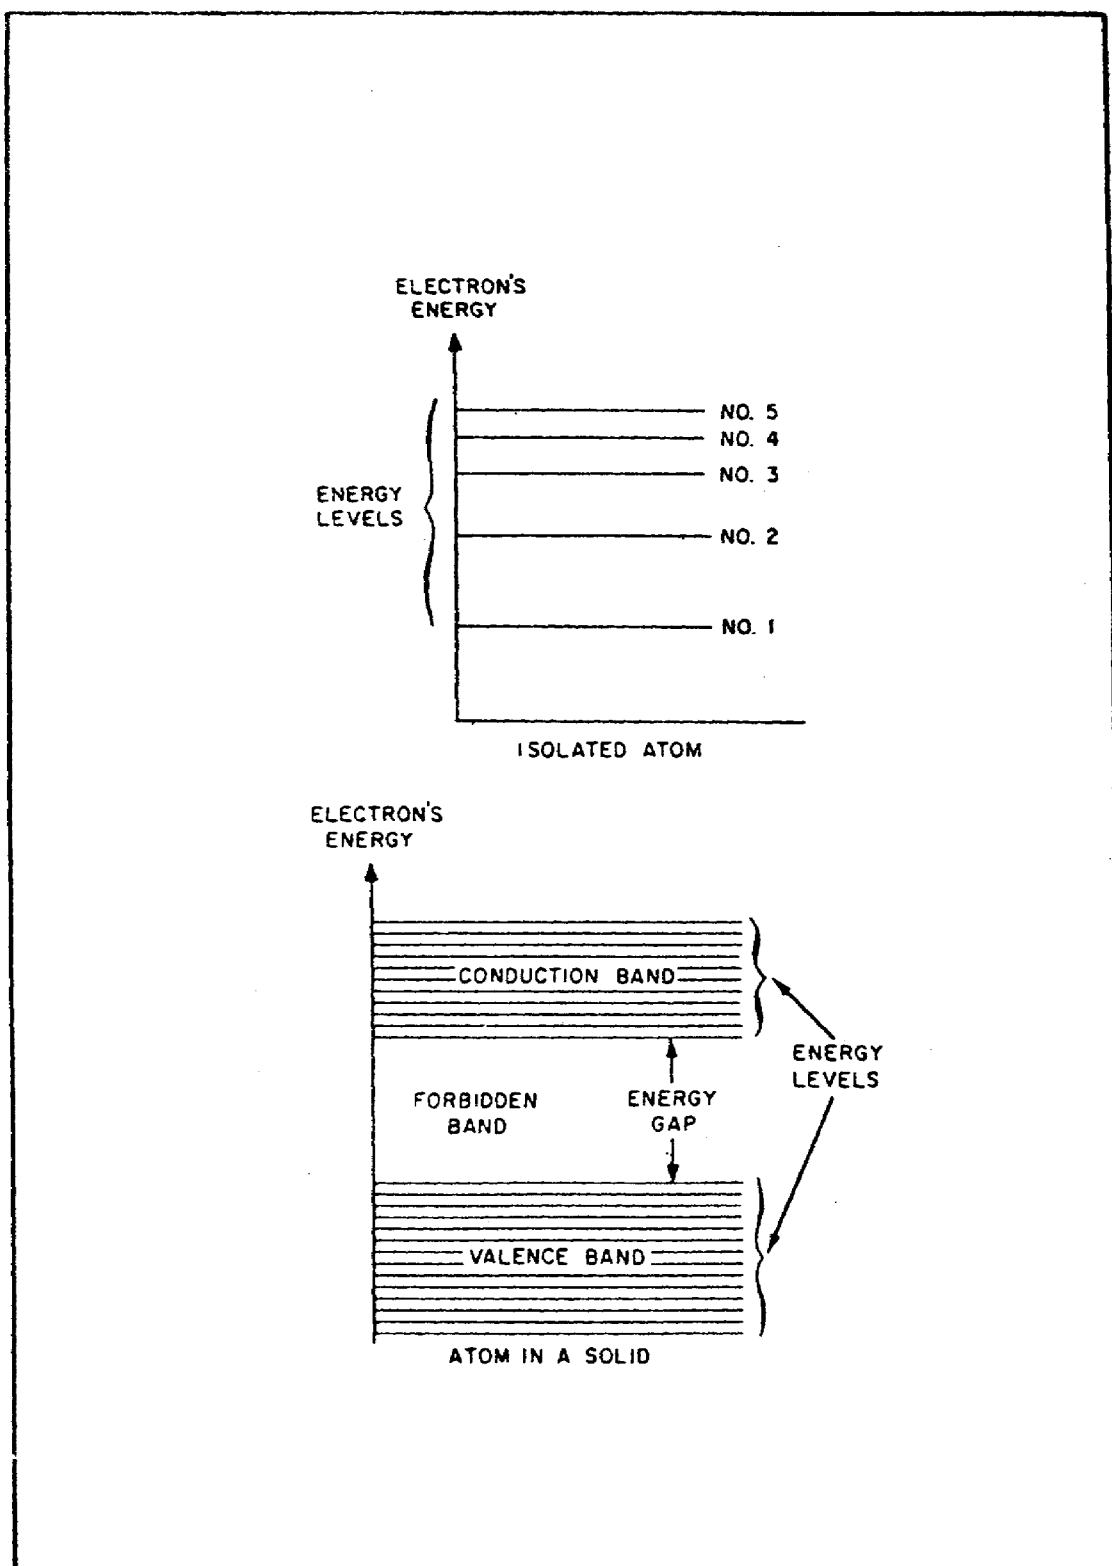

FIGURE 72. ENERGY ARRANGEMENT IN ATOMS.
(1) *Energy Bands.* Energy bands are groups of energy levels which result from the close proximity of atoms in a solid. The three most important energy bands are the CONDUCTION BAND, FORBIDDEN BAND, and VALENCE BAND. Each of these bands will be discussed briefly in the following paragraphs. While reading through these paragraphs refer to figure 72 on the following page.
(a) *Conduction Band.* The upper band in figure 72 is called the conduction band because electrons in this band are easily removed by the application of external electric fields. Materials that have a large number of electrons in the conduction band act as good conductors of electricity.